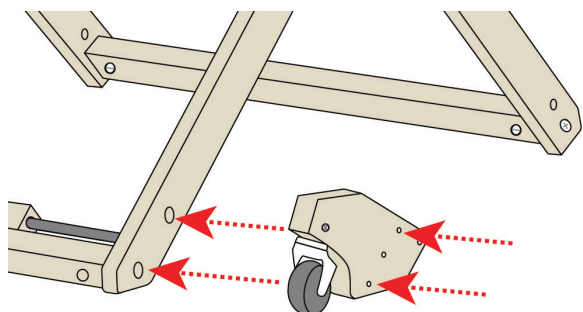

FIGURE 14: ALIGN HOLES
18. Place a stroller block next to the right inside leg, with the wheel at the front of the loom and holes aligned with the leg (Figure 14). You will attach the block through its **top and bottom** holes.